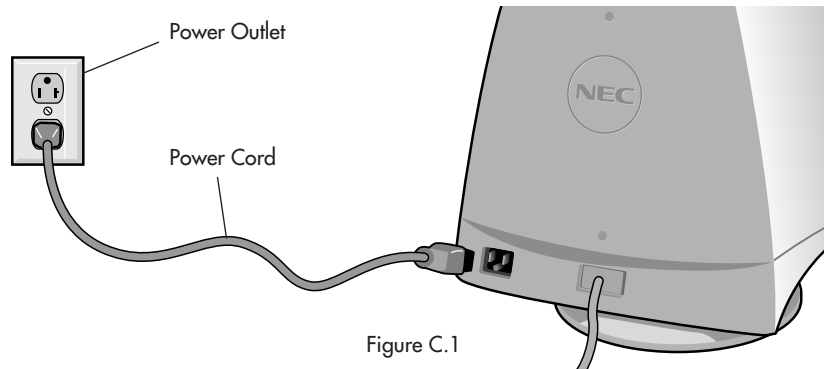

Figure C.1
**NOTE:** To obtain the Macintosh cable adapter, call NEC Technologies at (800) 820-1230.
4. Connect one end of the power cord to the MultiSync monitor and the other end to the power outlet (**Figure C.1**).